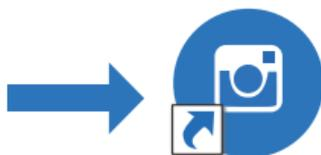

Figure 7
2.4 Click "Install" to start the installation and enter the installation process . Do not click "Cancel" to exit (Figure 7). When the S-EYE icon appears on the desktop, the program installation is complete. As shown